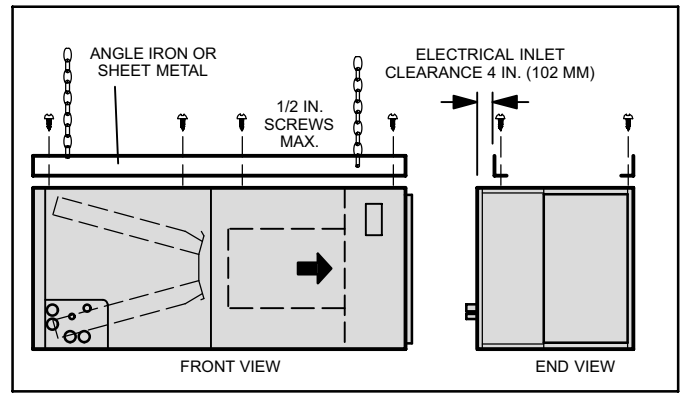

Figure 3. Suspending Horizontal Unit
- Step 3. If the unit is to be suspended, it must be supported along the entire length of the cabinet as illustrated in figure 3. If using a chain or strap, attach a piece of angle iron or sheet metal to the unit (either above or below the unit), so that the full length of the cabinet is supported. Use securing screws which are no longer than 1/2 inch to avoid damaging the coil or filter. Use sheet metal screws to connect the return and supply air plenums.